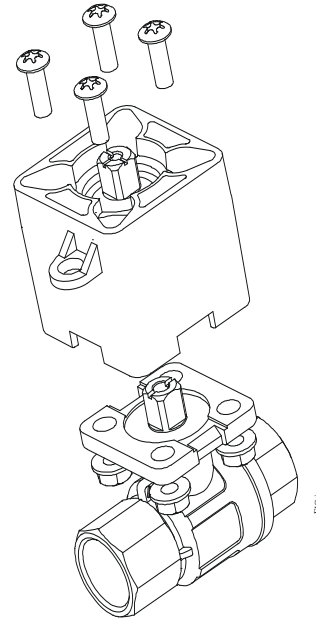

Figure 30: Installing the Barrier
3. Mount the thermal barrier onto the valve using the four included M5x16 mm machine screws and four M5 flange nuts. Tighten the screws to a recommended torque of 21 to 25 lb-in (2.4 to 2.8 N·m) (Figure 30).